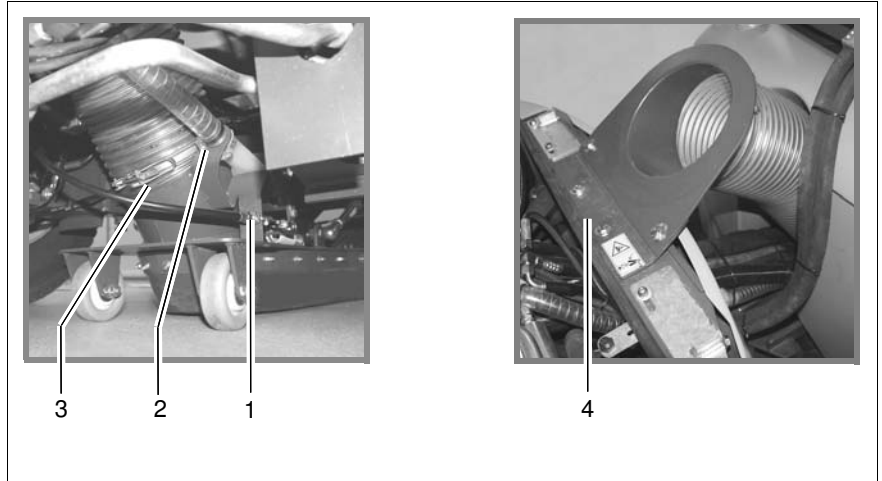

Fig.31
5. Attach Bbowden cable (Fig. 31/1) for the circulation water system.
6. Attach the water hose (Fig. 31/2) for the circulation water system.
7. Insert the suction hose from above and attach it to the vehicle's rear section (Fig. 31/4).
8. Attach the suction hose at the bottom of the suction nozzle (Fig. 31/3).